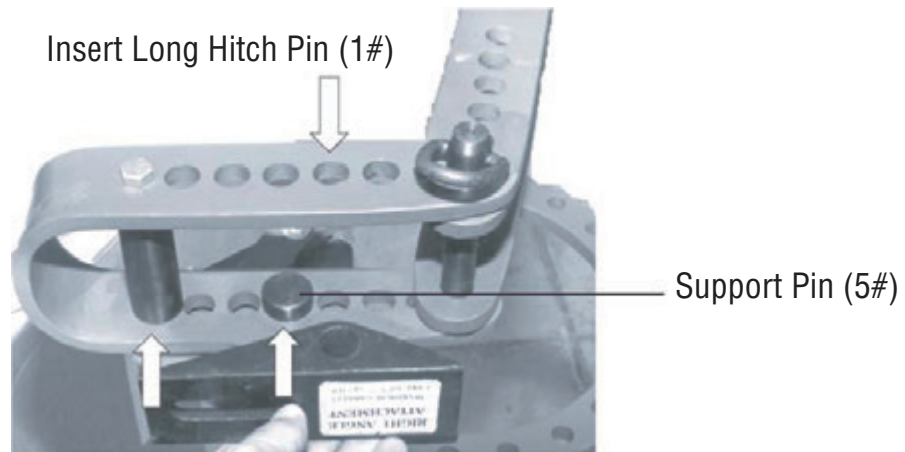

Figure 6-Right Angle Bending Attachment
Step 1) Install the Support Pin (5#) under the Right Angle Bending attachment (7#). This will raise it up so that it sits above the Ring Assembly/Die Receiver-see **Figure 6**.
Step 2) Set the Support Pin (5#) into the 3rd hole on the Ring Assembly/Die Receiver (10#). Line up the hole in the top of the Right Angle Bending Attachment (7#) with hole in the Ring Assembly/Die Receiver (10#)-see **Figure 6** . Insert the Long Hitch Pin (1#) through the second hole in the Ring Assembly/Die Receiver(10#) to secure the Right Angle Bending Attachment (7#) in place.